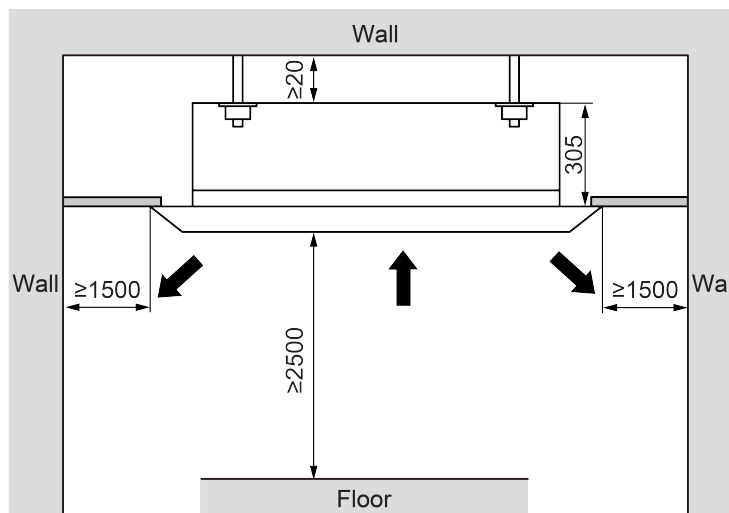

Fig.3.2.1
- (1) The location should be able to withstand the weight of unit.
- (2) The water can be drained conveniently from drainage pipe.
- (3) There should be no obstruction near air inlet and air outlet.
- (4) Follow the installation distance required in the Fig.3.2.1 below to ensure sufficient space for maintenance.
- (5) The installation location should be far from heat sources, flammable or explosive gas, or smog spread in the air.
- (6) The appliance shall not be installed in the laundry.
- (7) The indoor unit, outdoor unit, power cord and connection electricity wire should be at least 1m from television and radio in order to prevent interference and noise (Even though 1m distance is ensured, there may be noise if the electric wave is too strong) .